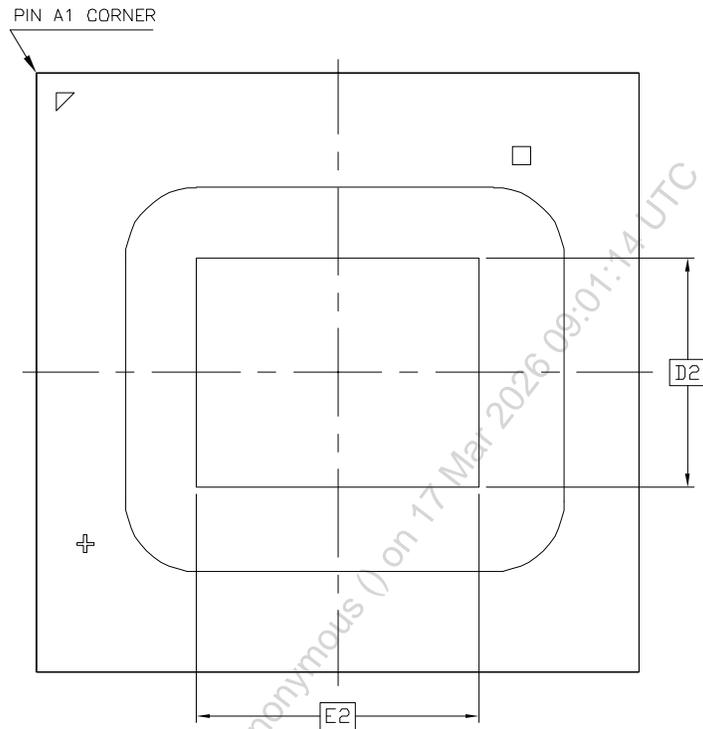
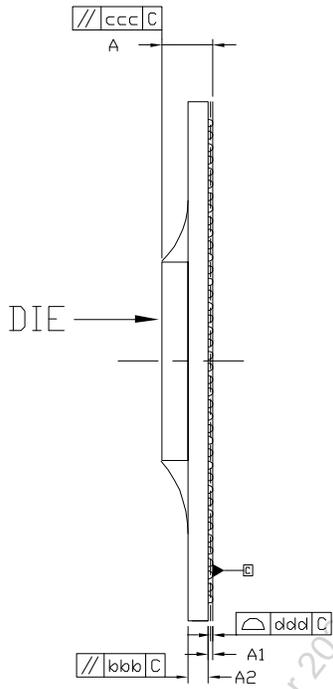
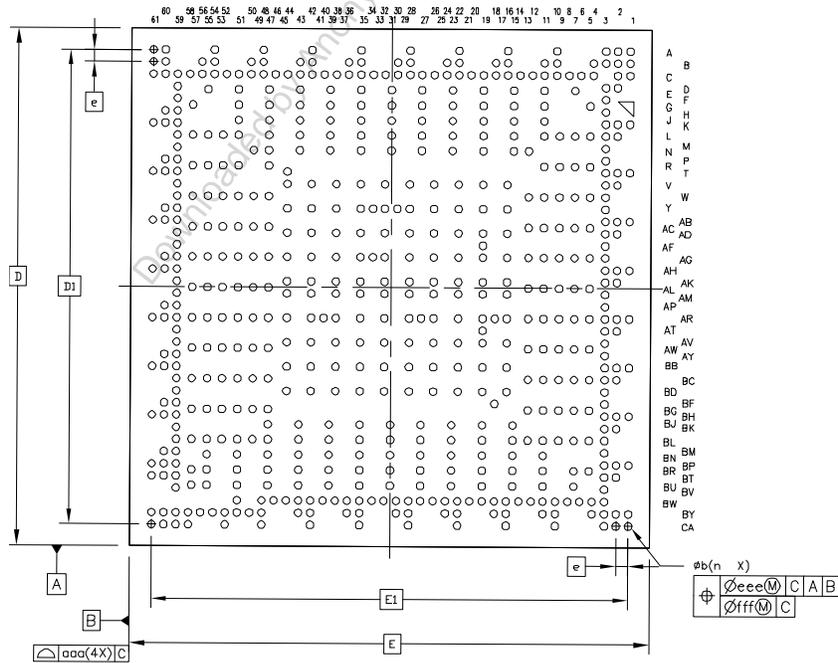

Figure 19. SL1680 Top View
Figure 20. SL1680 Side View
Figure 21. SL1680 Bottom View
**Note:** The drawings in Figure 19, Figure 20, and Figure 21 are not to scale.